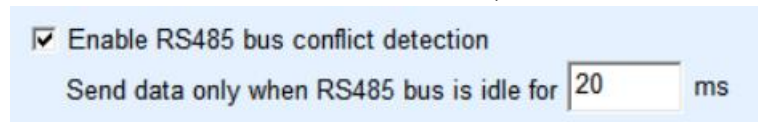

Figure 38 Free time of RS485 conflict prevention
1. Figure 38 shows the RS485 bus collision prevention time. Generally, you can set it to twice the value of Packet Interval in the lower right corner of the parameter configuration page, but the value cannot be less than 20.
At this time, it should be noted that the two check marks "RS485 bus collision prevention time" as shown in Figure 38 and "RS485 command response timeout time" as shown in Figure 37 need to be removed. Otherwise, the preceding forwarding function cannot be implemented.